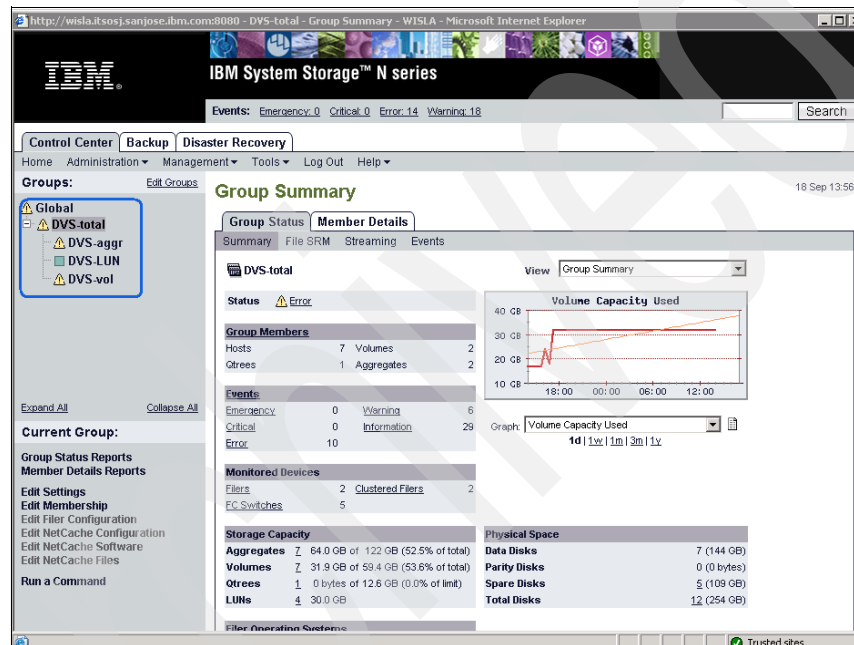

Figure 10-12 User-defined groups
Figure 10-12 shows the groups that we created: DVS-group, DVS-aggr, DVS-LUN, DVS-total, and DVS-vol.
1. Define a group that includes objects, such as storage systems, aggregates, file systems (volume and qtree), and LUNs, as shown in Figure 10-12 on page 366.